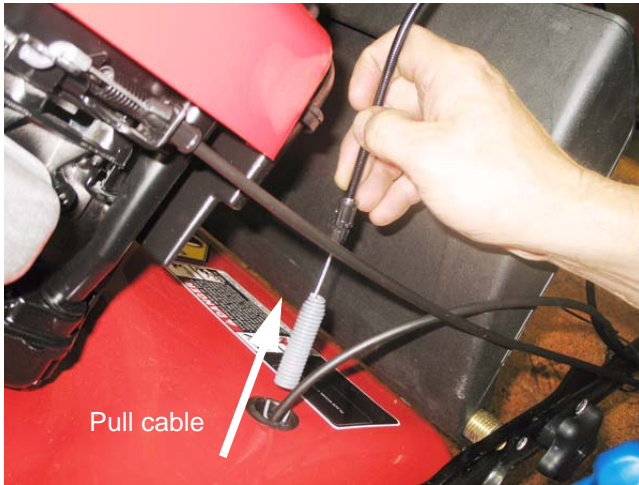

Figure 5.7
4. Draw the cable and spring up through the opening in the deck that the cables pass through. See Figure 5.7.